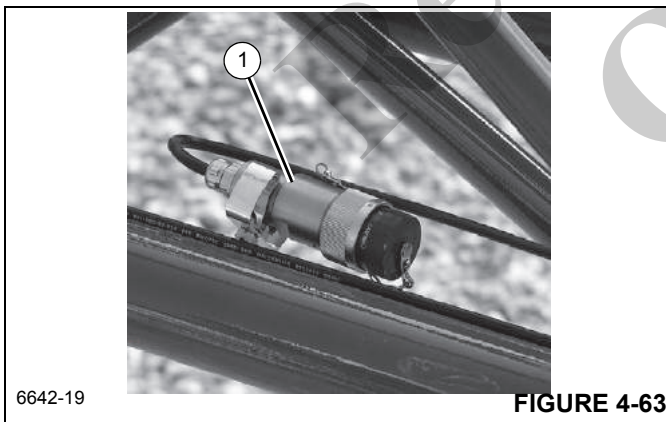

FIGURE 4-63
- a. Remove RCL cable end connector (1) Figure 4-63 from extension and route through boom extension.